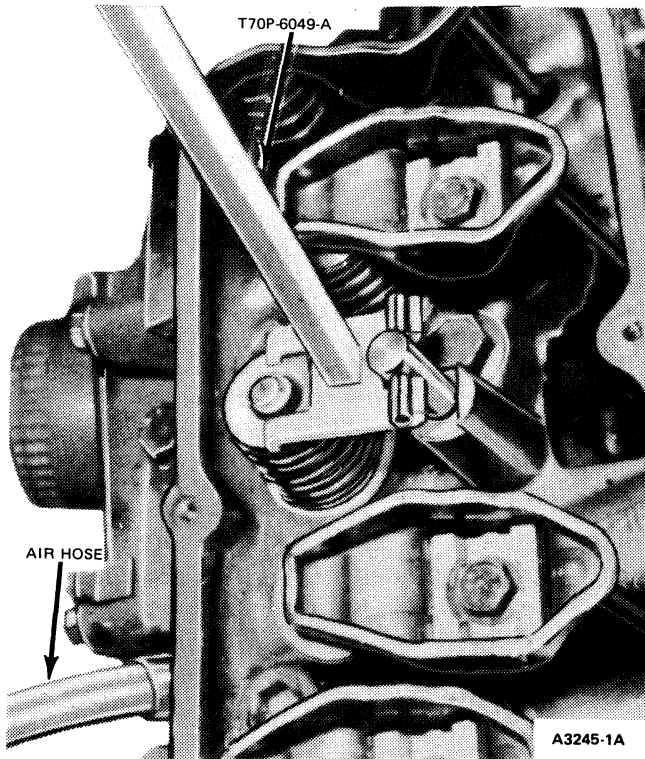

FIG. 38 Compressing Valve Spring—In Chassis
3. Compress valve springs (Fig. 38). Remove spring retainer locks and release springs. Remove retainers, springs, stem seals, and valves. Discard stem seals.
2. Set valve spring and retainer over valve stem. Compress spring (Fig. 38) and install retainer locks.